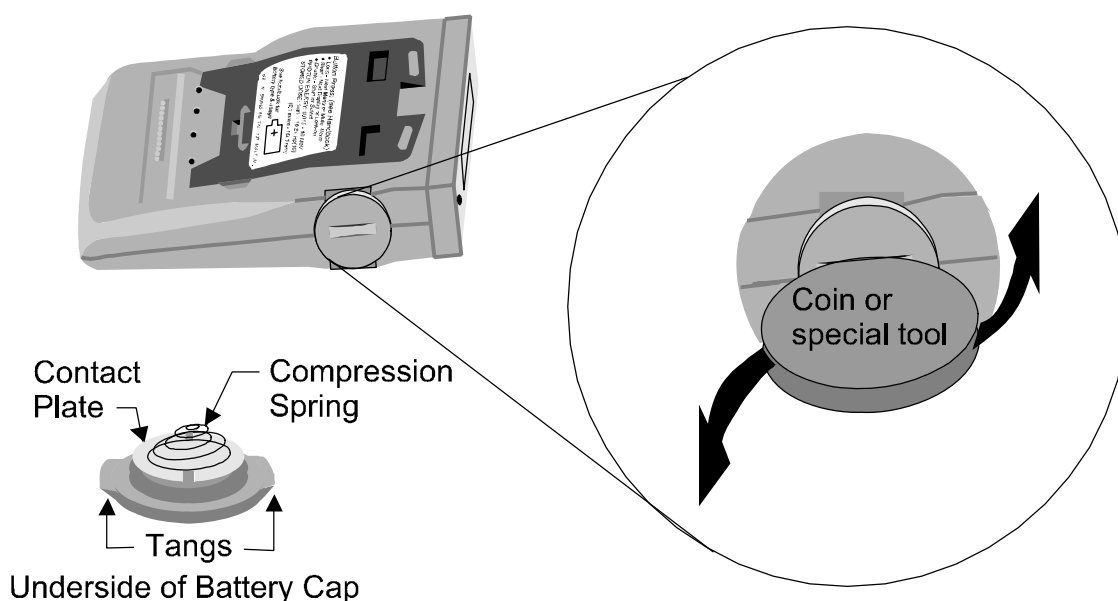

Figure 2.3 - Battery Cap Removal
- (iii) **Maintain steady inward pressure on the special tool or coin so as to keep it fully engaged in the battery cap** and rotate the battery cap through approximately 85° in a counter-clockwise direction (to remove cap, see Figure 2.3). If a battery is already fitted, the cap will normally release from the case under the action of the battery cap compression spring.